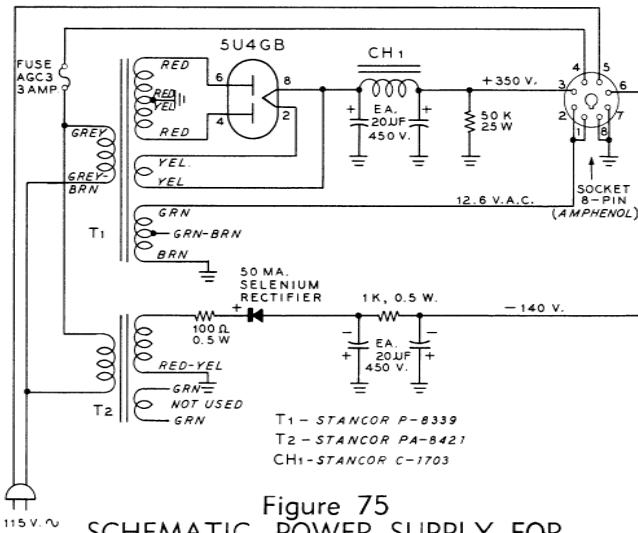

Figure 75
- A—Power plug modification for 522 transmitter, for use with a.c. supply shown in figure 75.